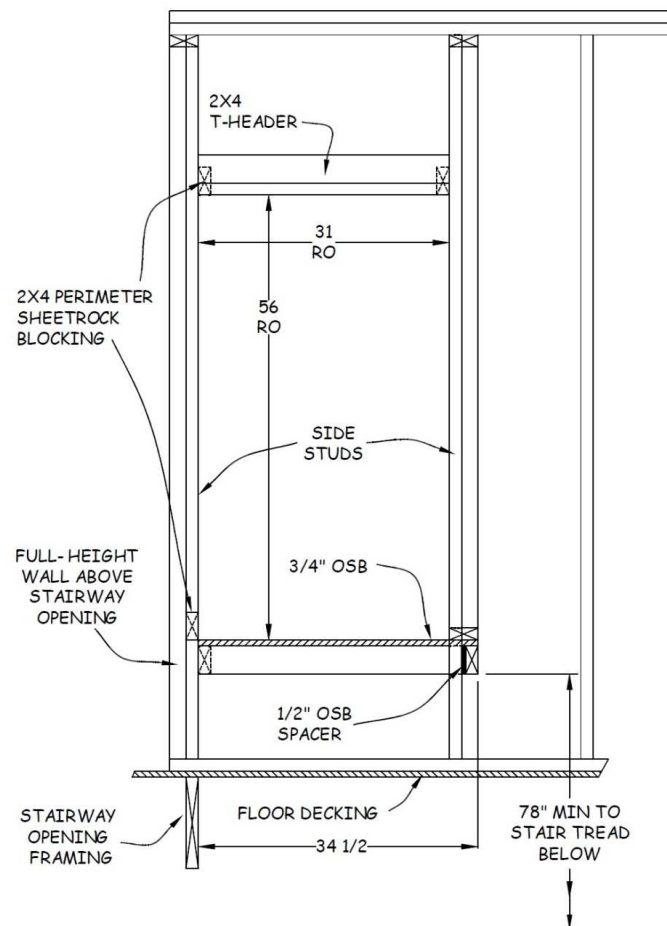

Figure 6-14. Stairway Cabinet Opening Framing.
2. Install a stud in the side wall flush to the stairway opening side of the end wall. Install another stud in the side wall 31" inside-to-inside from the first stud, toward the top of the stairs (see Figure 6-14).